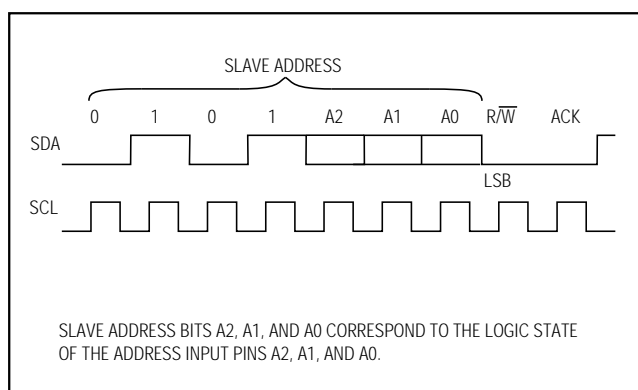
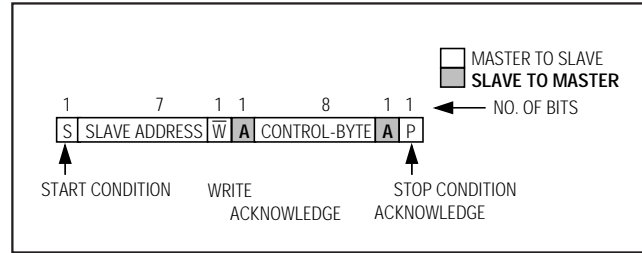
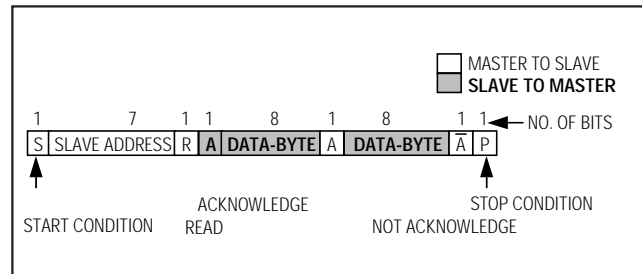
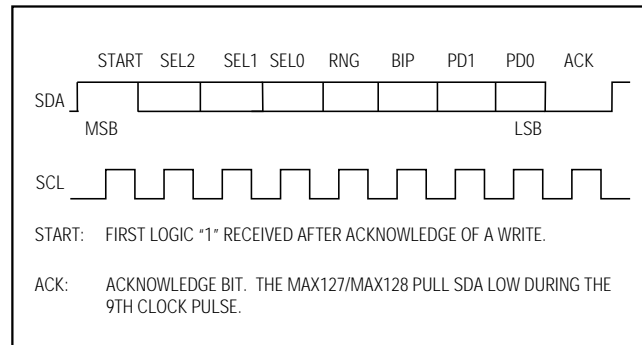

Figure 3. Address Byte
Figure 6. Write Cycle
Figure 7. Read Cycle
Figure 8. Command Byte
The MAX127/MAX128 have a 7-bit-long slave address. The first four bits (MSBs) of the slave address have been factory programmed and are always 0101. The logic state of the address input pins (A2–A0) determine the three LSBs of the device address (Figure 3). A maximum of eight MAX127/MAX128 devices can therefore be connected on the same bus at one time.
A conversion cycle begins with the master issuing a START condition followed by seven address bits (Figure 3) and a write bit ( $R/\bar{W} = 0$ ). Once the eighth bit has been received and the address matches, the MAX127/MAX128 (the slave) issues an acknowledge by pulling SDA low for one clock cycle ( $A = 0$ ). The master then writes the input control byte to the slave (Figure 8). After this byte of data, the slave issues another acknowledge, pulling SDA low for one clock cycle. The master ends the write cycle by issuing a STOP condition (Figure 6).
Once a conversion starts, the master does not need to wait for the conversion to end before attempting to read the data from the slave. Data access begins with the master issuing a START condition followed by a 7-bit address (Figure 3) and a read bit ( $R/\bar{W} = 1$ ). Once the eighth bit has been received and the address matches, the slave issues an acknowledge by pulling low on SDA for one clock cycle ( $A = 0$ ) followed by the first byte of serial data (D11–D4, MSB first). After the first byte has been issued by the slave, it releases the bus for the master to issue an acknowledge ( $A = 0$ ). After receiving the acknowledge, the slave issues the second byte (D3–D0 and four zeros) followed by a NOT acknowledge ( $A = 1$ ) from the master to indicate that the last data byte has been received. Finally, the master issues a STOP condition (P), ending the read cycle (Figure 7).